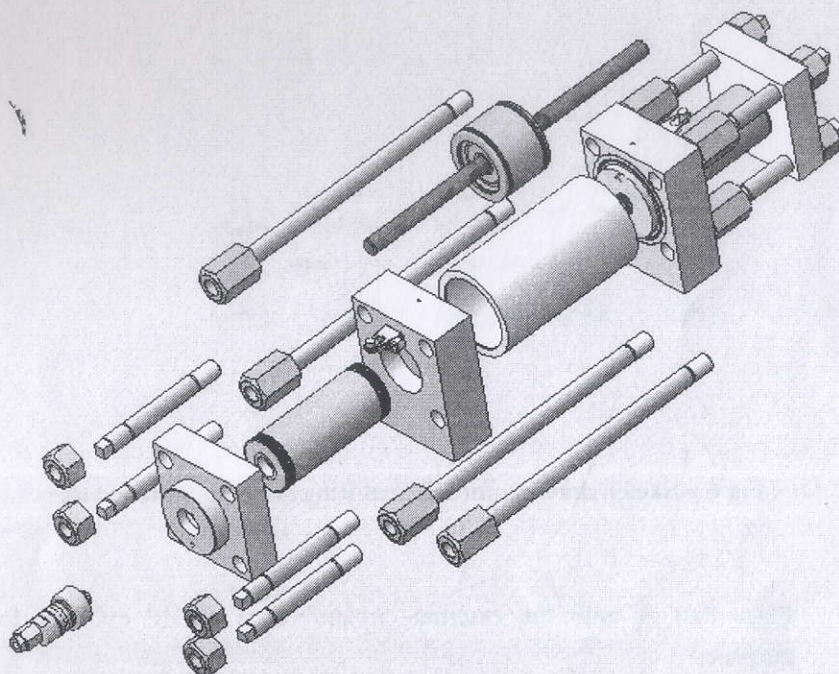

Fig. 5 - Exploded Diagram of Components of Booster Assembly
- 12) Put the copper ring onto the piston rod. Put it until it reaches firmly to the end face of the large end cover. Place gently the HP cylinder through the piston rod and move it slowly to the large end cover. After that, assemble the plug and place it gently into the inner hole of the cylinder until the requirements is fulfilled (refer to Fig. 5 - Explored Diagram of Components of Booster Assembly);
- 15) The above parapatterns are the method for disassembling HP cylinder and replacing HP seal rings. Now the assembly of HP seals is finished and the cylinder could be put into trial operation. Pay attention that the air remaining in the HP cylinder must be removed (the same methods explained in item 5), Clause 2, Section 4 of this chapter) before the water is supplied and trial operation starts. If leakage is still found on the ends of the HP cylinder during trial operation, and bulges are found on both sides of the cylinder or there is leakage in the cylinder itself, it means the metal material of the cylinder gets fatigued and the cylinder is damaged. The above-said process should be followed for replacing a new HP cylinder